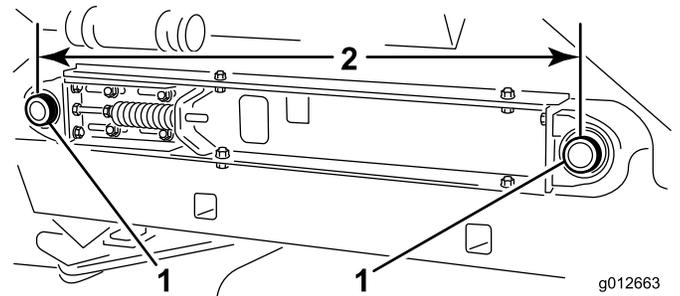

Figure 18
3. Check to insure that the center distance between conveyor belt roller shafts (Figure 18), on each side of machine, are equal distance (approximately 35-1/4 inches [895 mm]).